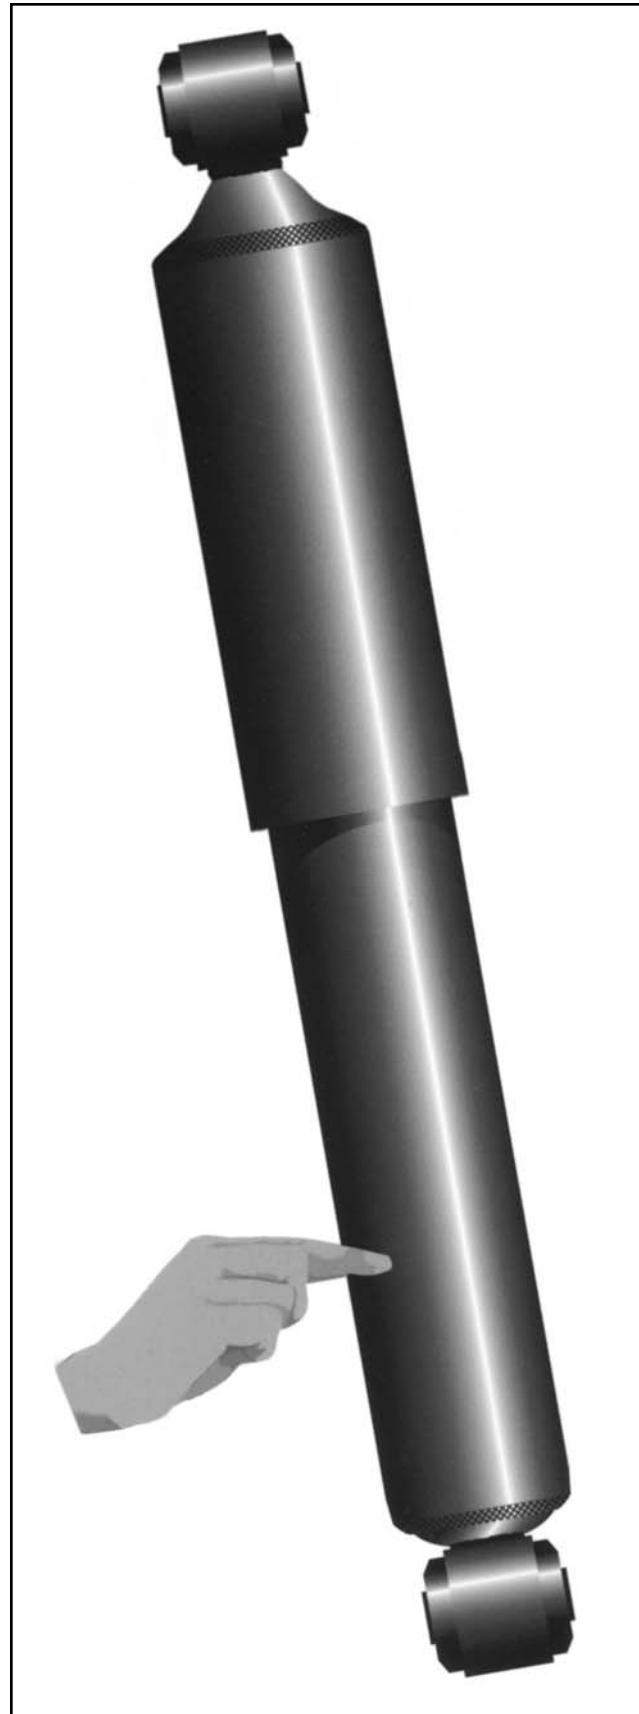

Figure 1
2. Within a few minutes of pulling the trailer, touch each shock absorber carefully on its body below the dust cover or tube (Figure 1), after first touching a nearby part of the frame to establish a reference ambient temperature of the metal.